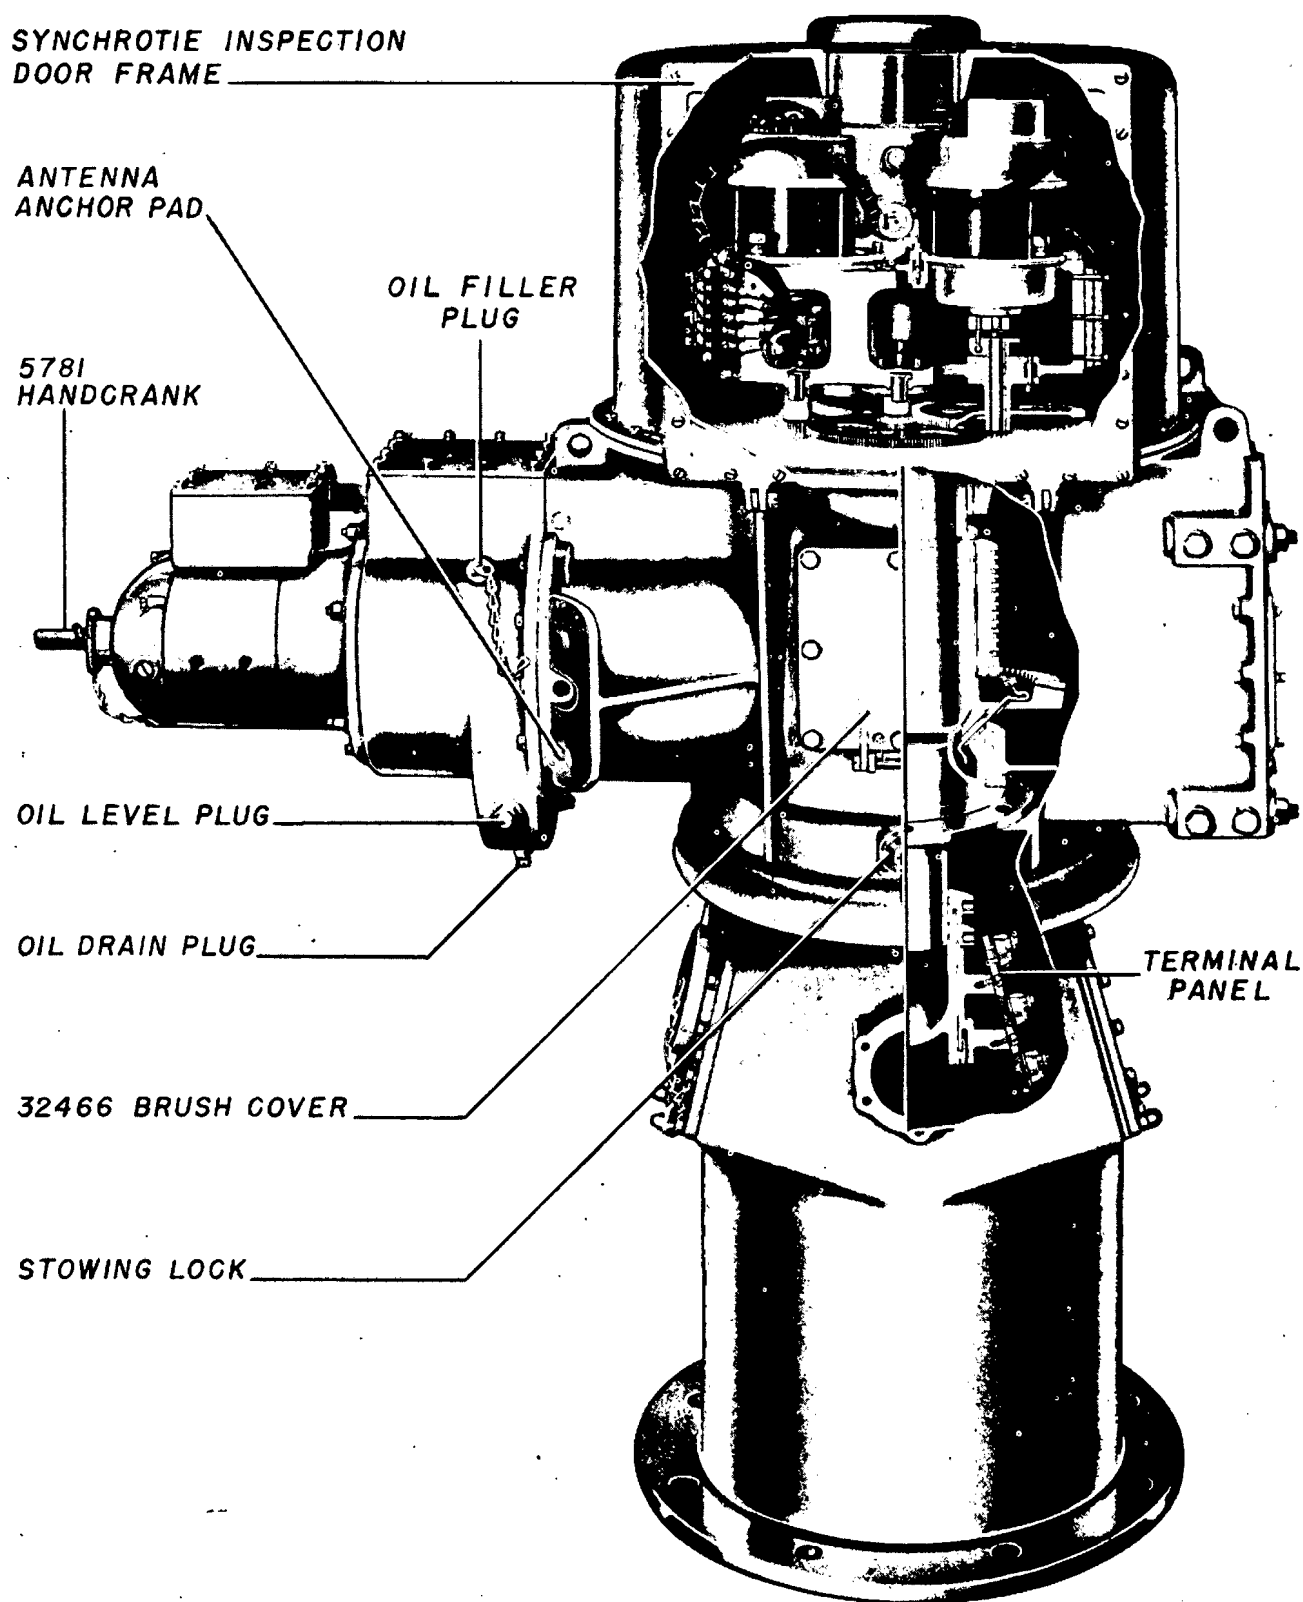

Figure 3-43. Antenna Pedestal, Showing Synchro Inspection Door
(1) Remove the disconnect plug P-1301 in the Pedestal base. Then remove the plug from the rear end of the drive motor and insert the handcrank, making certain that the tongue on the crankshaft engages the groove in the motor shaft.
(2) Loosen the captive fillister head screws in the edge of the synchro inspection door shown in Fig. 3-43.
(3) Rotate the Antenna with the hand crank until the Antenna is facing directly forward and engage the stowing lock. This lock is shown in Fig. 3-43.
(5) Disconnect leads 60, 61, and 62 from the terminal block E-1302 shown in Fig. 3-25 and located on the panel shown in Fig. 3-43.
(6) Tie the disconnected 61 lead to terminal 155.
(7) Connect one lead of an a-c voltmeter to terminal 154 and connect the other lead of the voltmeter to the disconnected 60 lead. The voltmeter should be operated on the 250 volt range.
(8) Loosen the three screws which hold the synchro clamp ring in place.